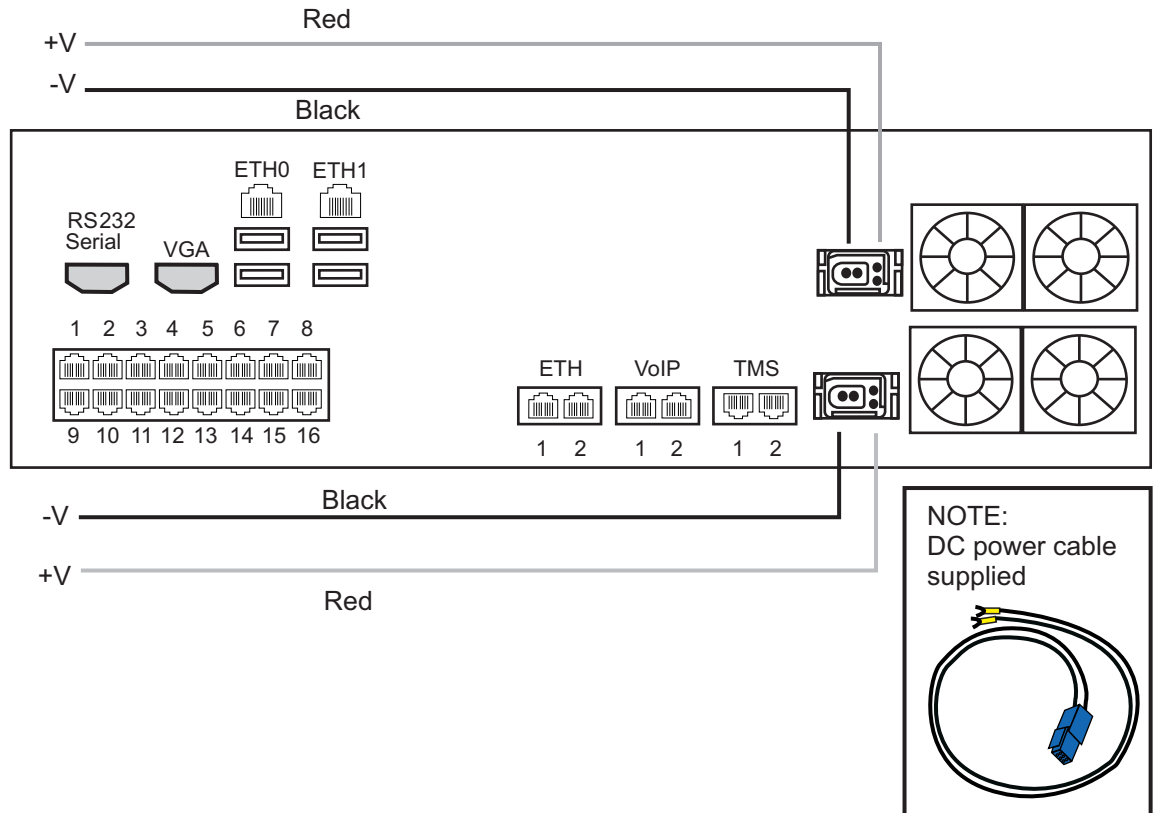

Figure 2.10 TMG5800 DC wiring diagram
1. Connect the DC cable supplied with the TMG5800, as shown in figure 2.10 on page 20, to the DC outlet at the rear of the TMG5800.
2. Connect the red lead of the DC power cable to the positive terminal of the DC power source, as shown in figure 2.10 on page 20.